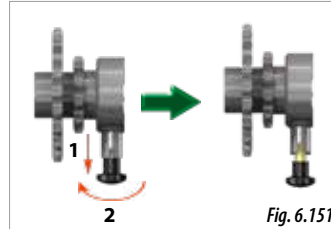

Fig. 6.151
- 3- In the transmission axle where the clutch is (Fig. 6.149), pull the securing knob and turn it 90° to lock it at the free transmission position (Fig. 6.151).